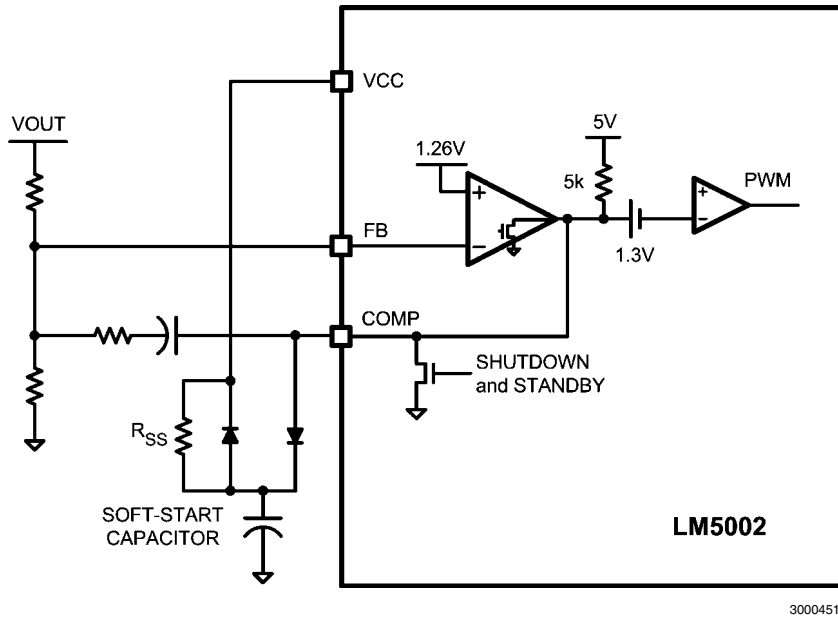

FIGURE 5. Soft-Start
Internal Thermal Shutdown circuitry is provided to protect the IC in the event the maximum junction temperature is exceeded. When the 165°C junction temperature threshold is reached, the regulator is forced into a low power standby state, disabling all functions except the VCC regulator. Thermal hysteresis allows the IC to cool down before it is re-enabled. Note that since the VCC regulator remains functional during this period, the soft-start circuit shown in Figure 5 should be augmented if soft-start from Thermal Shutdown state is required.
Soft-start (SS) can be implemented with an external capacitor connected to COMP through a diode as shown in Figure 5. The COMP discharge MOSFET conducts during Shutdown and Standby modes to keep the COMP voltage below the PWM offset (1.3V), which inhibits PWM pulses. The error amplifier will attempt to raise the COMP voltage after the EN pin exceeds the 1.26V standby threshold. Because the error amplifier output can only sink current, the internal COMP pull-up